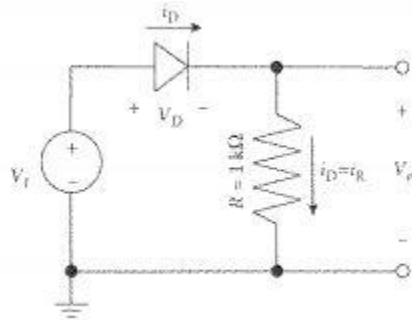

Figure 1: Circuit to characterize junction diode terminal characteristics
- Build the circuit shown above in Figure 1 using a diode provided by your teaching assistant and available resistors